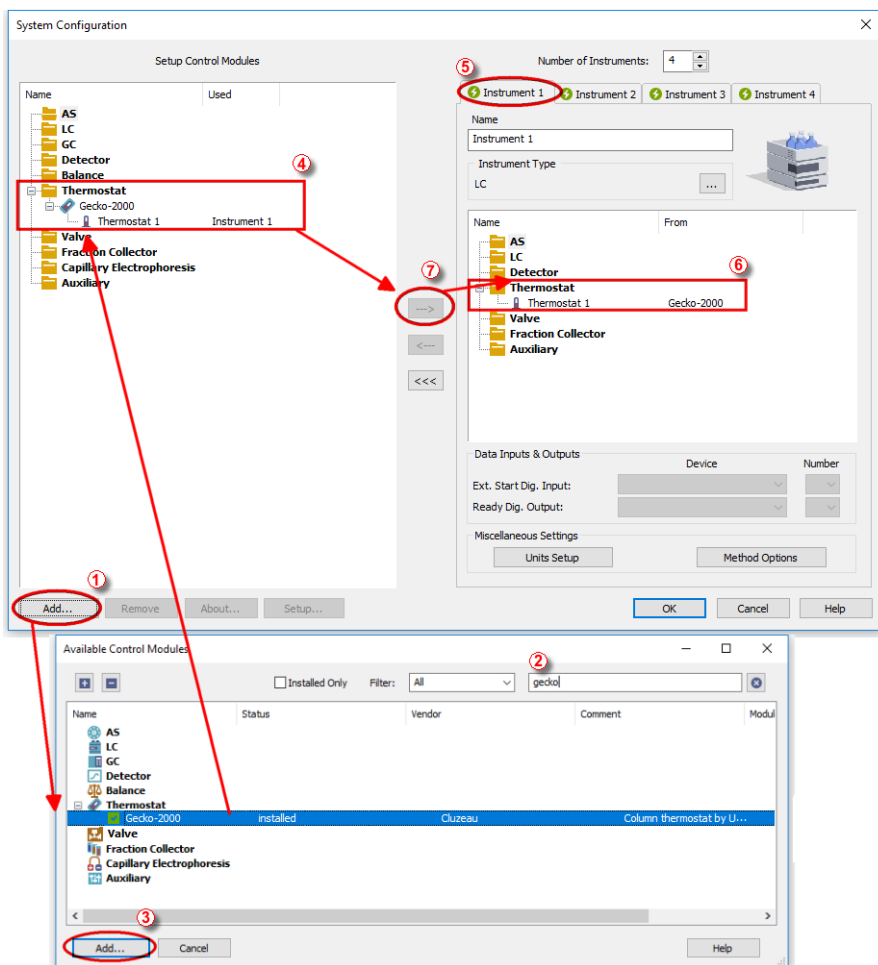

Fig 3: How to Add Cluzeau Gecko 2000
- Press the **Add** button (1) on **Fig 3** on pg 4.) to invoke the **Available Control Modules** dialog.
- You can specify the search filter (2) to simplify the finding of the driver.
- Select the correct item and press the *Add* (③ on **Fig 3** on pg 4.) button. Each device with already created UNI profile should have its own item named accordingly in the **Available Control Modules** dialog.